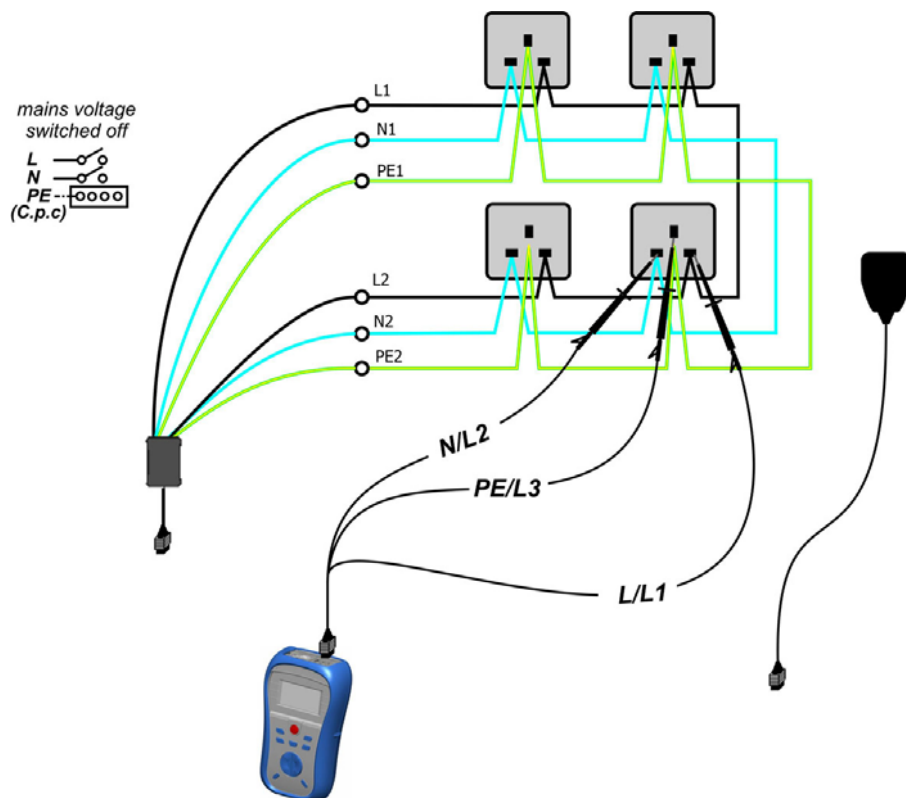

Figure 5.18: Step 2 - measurement of resistances R_1+R_2 , R_1+R_N
- ❑ **Easy switch** must stay connected to the final ring circuit. The electrical installation must be de-energized during the test (see figure 5.18).